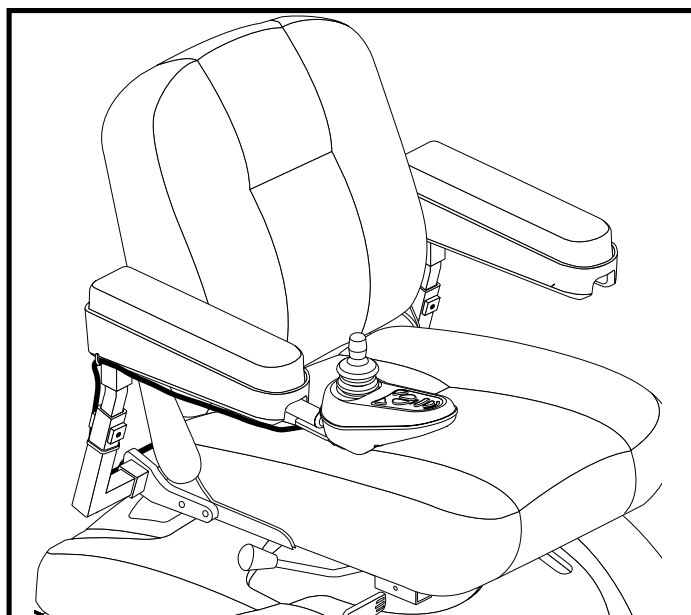

Figure 13. Cable Routing
3. Install the controller and route the cable to the rear of the power base. See figure 13.